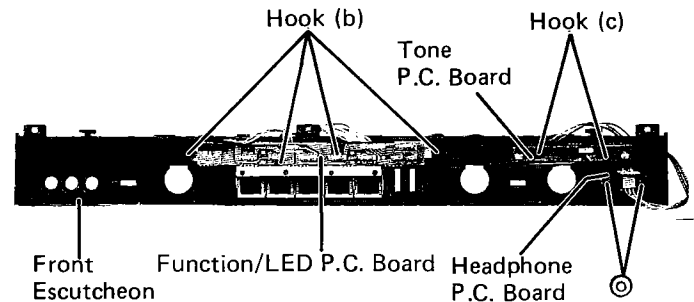

Figure 7
- (1) After removal of Front Escutcheon, remove four hooks (b) as shown in Figure 7.
- (1) After removal of Front Escutcheon, remove two hooks (c) as shown in Figure 7.
- (1) After removal of Front Escutcheon, remove two screws marked "◎" as shown in Figure 7.